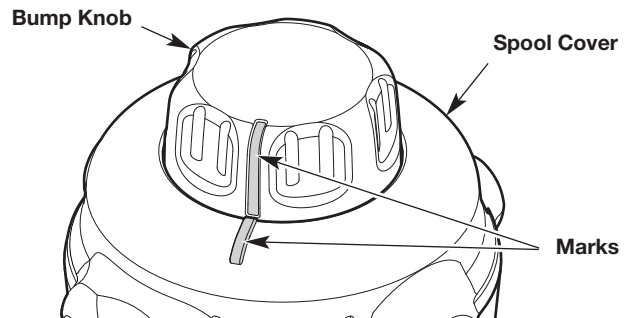

Fig. 26
3. Turn the bump knob to align the mark on the bump knob with the mark on the spool cover (Fig. 26).